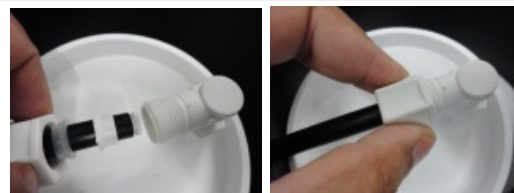

Fig 7
- Remove the lid on the salt tank. Insert the brine well into the appropriate slot at the bottom of the salt tank (fig 6). Slide the 3/8" tube through the hole on the side of the salt tank and connect it to the brine float as shown in fig 7.